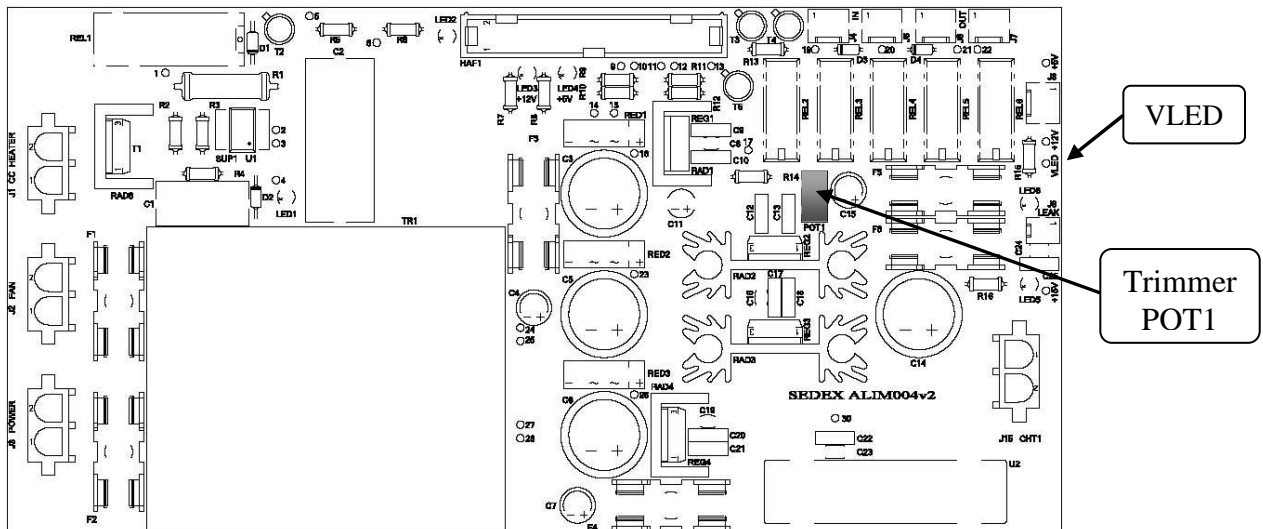

Figure 5-4: The ALIM004V2 Board Lamp Setting
- f) Check the voltage at VLED test point on ALIM004v2 Board (Figure 5-4). Do not plug in the light source connector now.